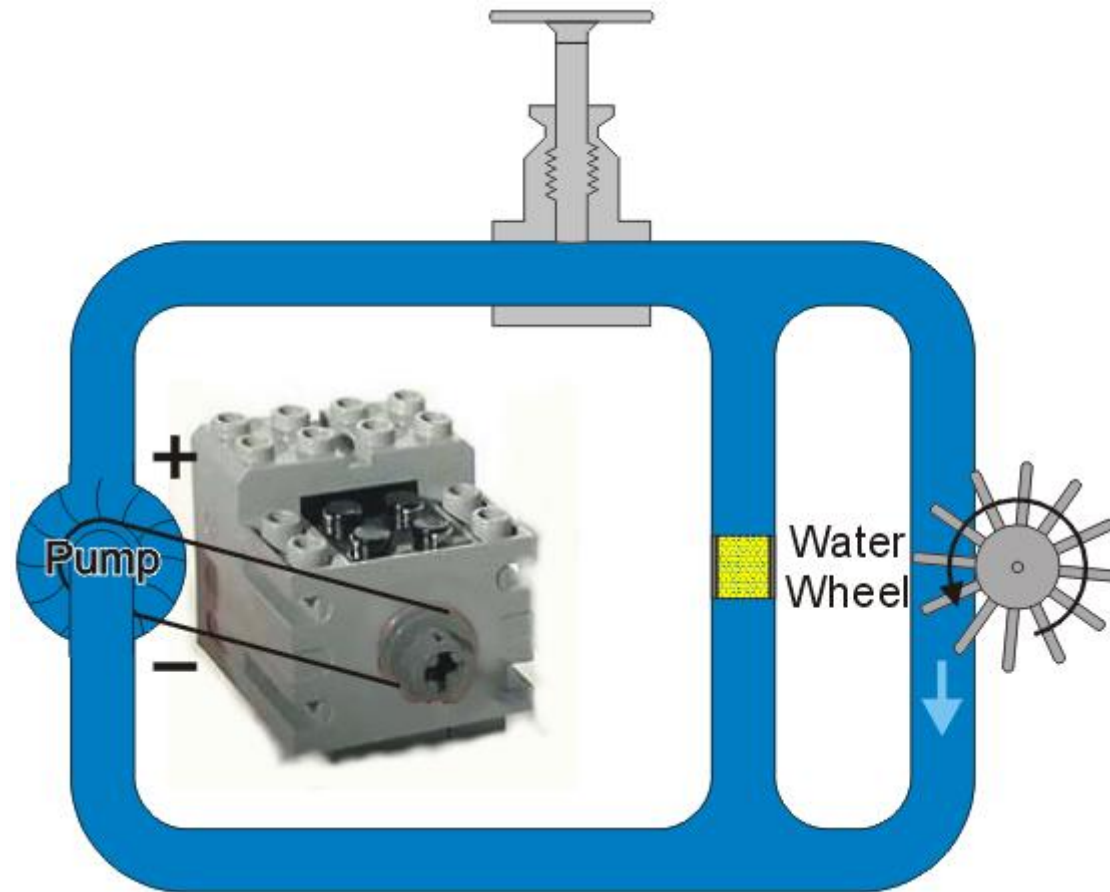

Fig 17: The water wheel is spinning and no flow passes through the filter.
- However, as time goes on, the water wheel begins to spin and when the water wheel is turning at the same rate as the flow from the pump, no water will pass through the sand filter. This is shown in **Fig.17**.